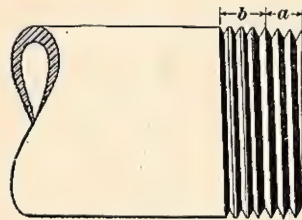

FIG. 19
23. The tightness of a screwed joint depends largely on the accuracy with which the thread is cut. A good thread is shown in Fig. 19. The part *a* contains the **leading threads**, which are perfect in form. These are depended on chiefly for making a close contact with the thread in the fitting, and thus insuring a water-tight joint. The threads at *b* are imperfect. Their tops are flat and they only serve